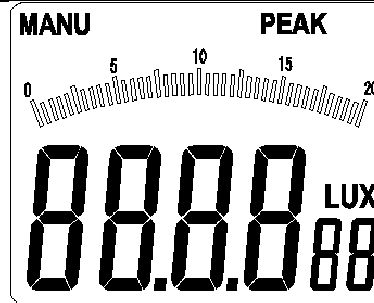

Figure 3-1-2B
- Press and hold “REL/PEAK” key for one second, the device will enter the peak value measurement mode, “PEAK”LCD will appear on the top right position of the LCD interface, and at the same time, “MENU” will appear on the top left position of the LCD interface (as shown in figure 3-1-2B);